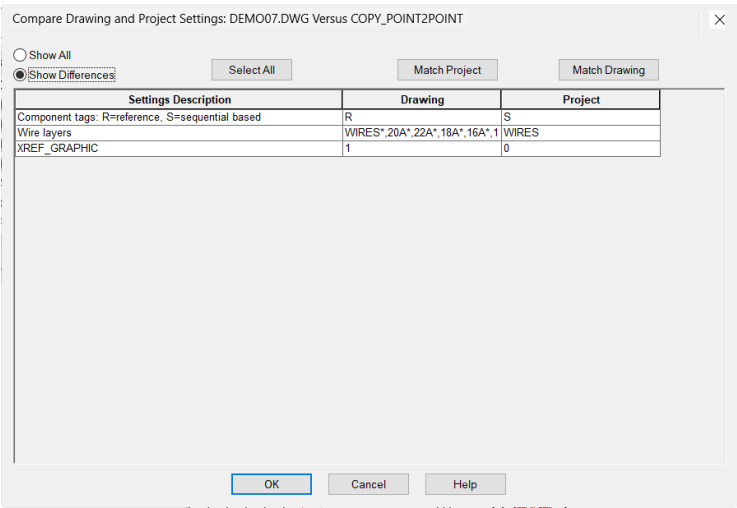

Figure 2-75 The Compare Drawing and Project Settings: DEMO007.DWG Versus COPY_POINT2POINT dialog box
2. Select the **DEMO07.dwg** from **Copy_Point2Point** in the **Projects** rollout and right-click; a shortcut menu is displayed. Choose **Properties** from the shortcut menu; a cascading menu is displayed. Choose **Settings Compare** from the cascading menu; the **Compare Drawing and Project Settings: DEMO07.dwg Versus COPY_POINT2POINT** dialog box is displayed, as shown in Figure 2-75.